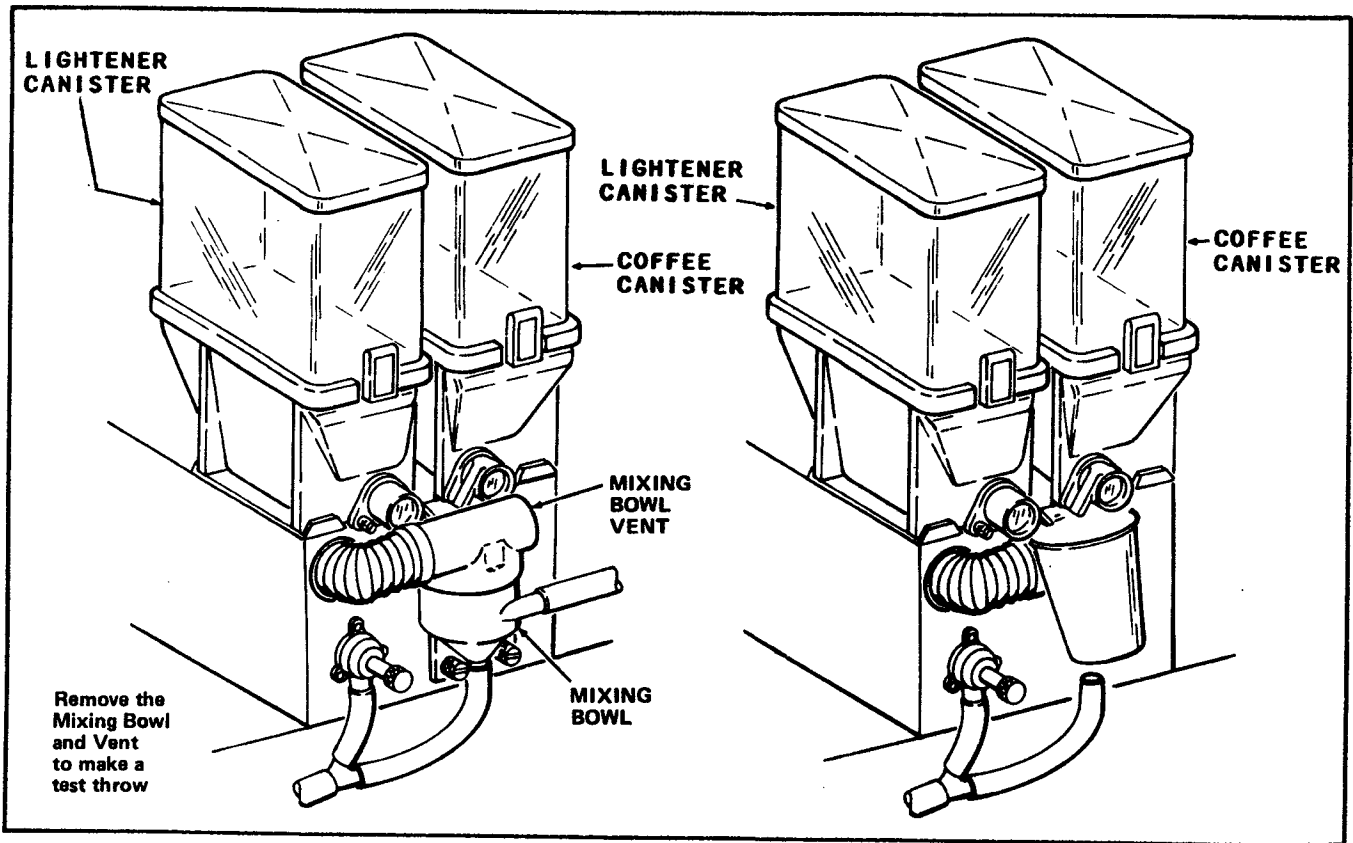

Figure 2-8. Lightener and Coffee Powder Test Throw
- E. Hold a clean empty cup under the exit chute of the Canister under test. See Figures 2-8, 2-9 and 2-10.